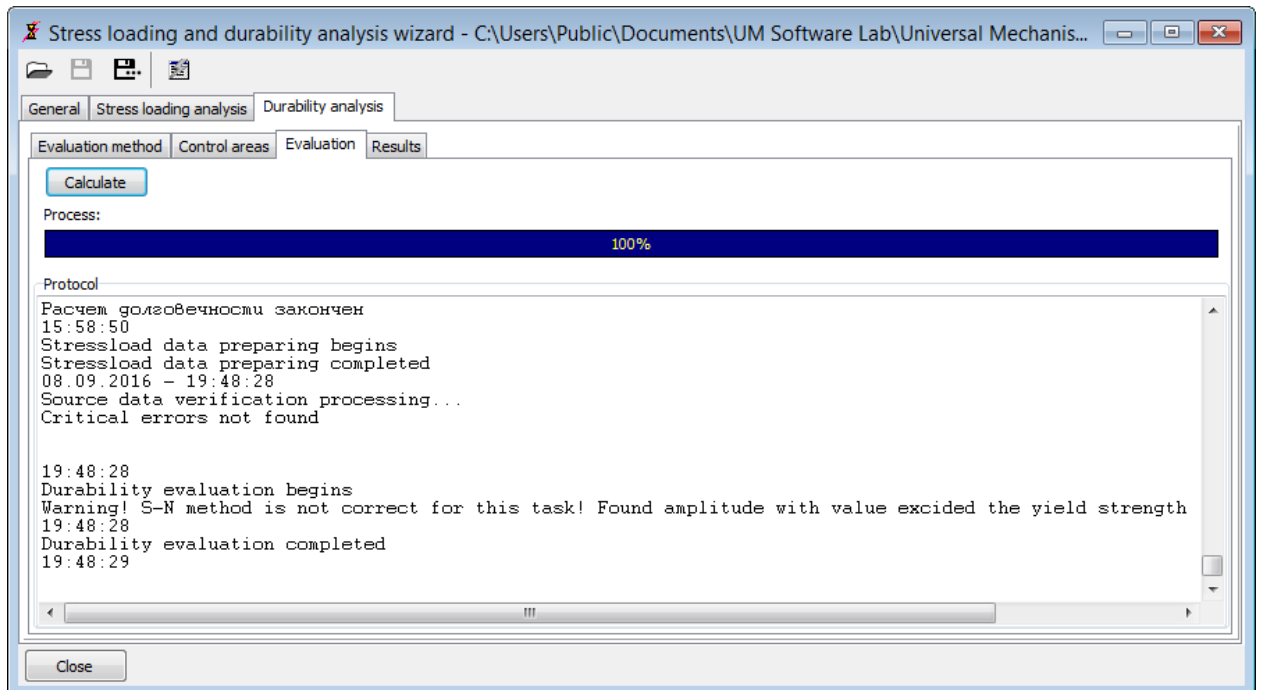

Figure 2.37. Durability parameters calculation tab
2. Click **Calculate**, see Figure 2.37. It will take you less than a minute.